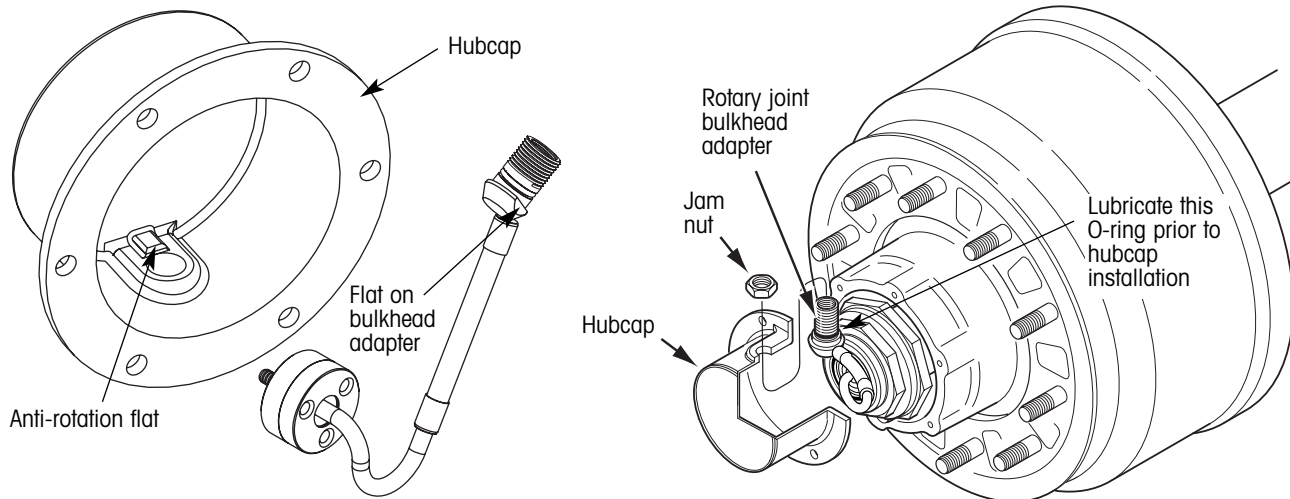

Figure 7. Hubcap installation
2. Lubricate the O-ring on the rotary joint bulkhead adapter (figure 7). Use the same lubricant as is
- Align the flat on the bulkhead adapter with the anti-rotation flat in the hubcap (figure 7). Note the orientation indicator on the top of the bulkhead adapter threads (figure 6a). Use this indicator (could be a dot or a notch) to properly orient the bulkhead adapter in the hubcap hole. When the flat on the bulkhead adapter is properly aligned with the anti-rotation flat in the hubcap, the orientation indicator will face outboard (figure 6b). **Do not use pliers or any kind of wrench to pull the bulkhead adapter up through the hole in the hubcap. This could cause the bulkhead adapter to rotate before it engages the flat in the hubcap, potentially damaging the rotary union or hubcap.**
Attach the jam nut and hand tighten (figure 7). When properly seated, the top of the bulkhead